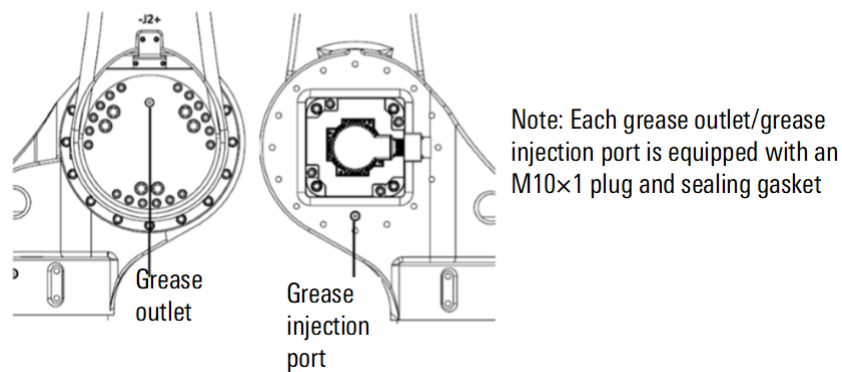

Figure 10-7 Replace the J2 axis reducer grease
- Step4. Remove the M10x1 plug and sealing gasket of the grease outlet, as shown in Figure 10-7.